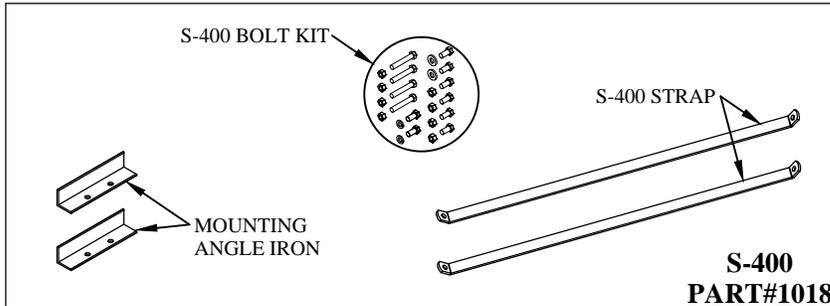

Figure 2: Part Identification
- 3. Verify** mounting bracket kit (Figure 2 and Table 1).